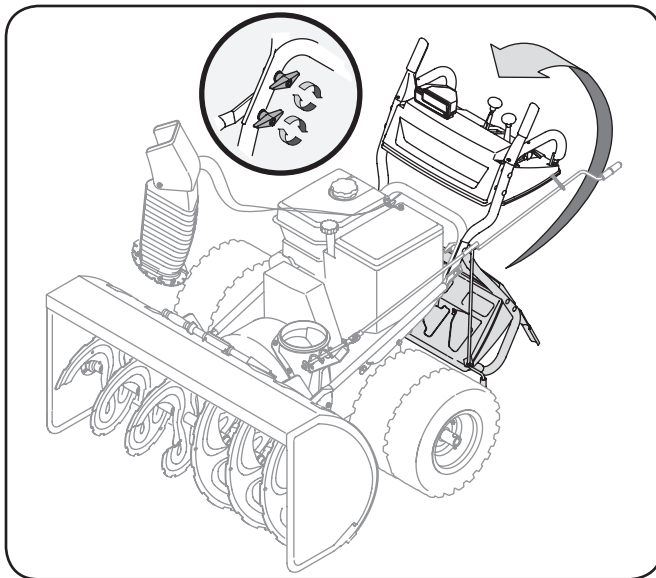

Figure 3-1
2. Remove the lower plastic wing nut, Belleville washer and carriage bolt from each side of the upper handle; then raise the upper handle assembly until it snaps over the lower handle. See Fig. 3-1.